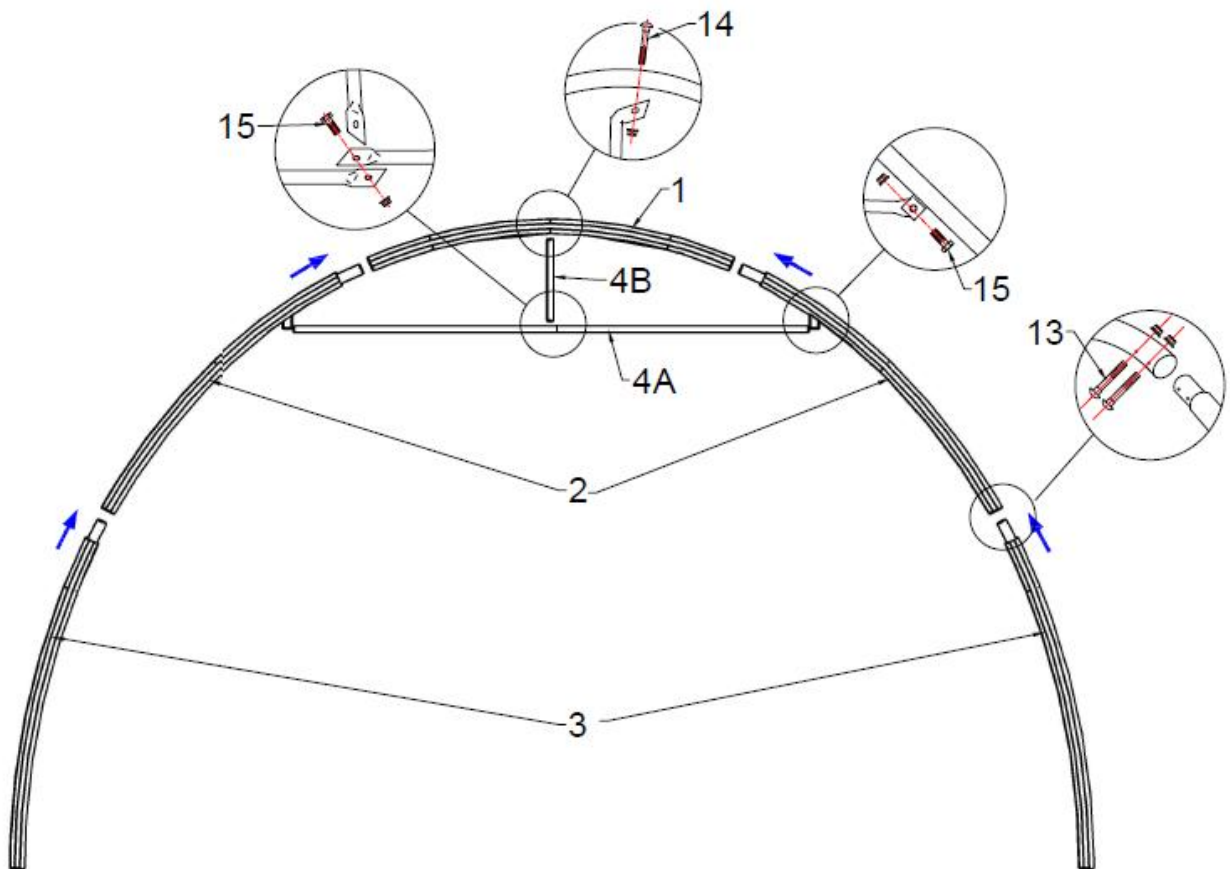

Figure 3
3.1 As Figure 3 shown to find one Roof Bent Tube (No.1), two Middle Bent Tubes (No. 2), Lower Bent Tube (No. 3) and assemble every group arch with BoltM8x60 (No.13). DO NOT install the screw on the top of the truss where the fabric will rest.